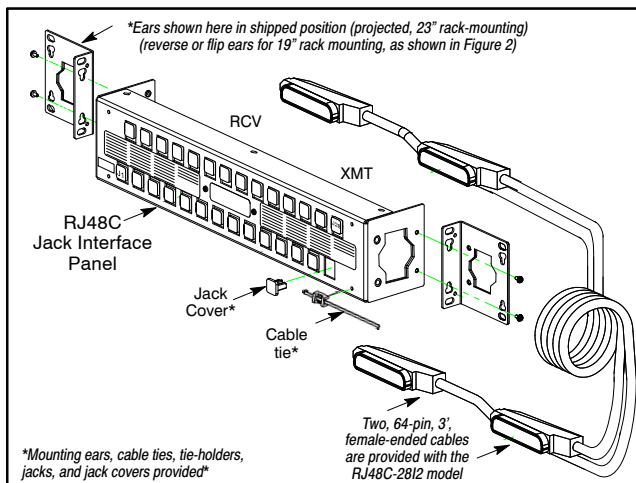

Figure 3. Exploded View of RJ48C Jack Interface Panel
Revision C of this practice updates Paragraphs 1.3, 2.2.1, Figure 3, deletes the previous Figure 4, Table 2, and Table 5, and adds the current Table 2 and Figure 4 through Figure 6. Revision B of this practice updated all text and drawings which describe or show the mounting ears (additional holes added). Revision A replaced 030-101336 for the models shown in Table 3 and updated the company contact information. Practice 030-101336 replaced practice 057-017701. Whenever this practice is updated, the reason will be stated in this paragraph.
There are two mounting types; one is rack mounting and the other is wall mounting. See Table 1 for a step-by-step installation procedure and refer to Figure 3 if needed.
to the wall. The mounting ears may be detached (panel is shipped with ears in the 23" rack mount position, as shown in Figure 3), re-positioned, and re-attached for wall mounting applications.
3.	Determine mounting type and ear position. The panel is shipped with the ears attached for projected mounting in a 23" relay rack (see Figure 3). If flush mounting in a 23" rack is desired, or if either 19" rack or wall mounting is desired, remove, re-adjust, and re-attach the ears in the desired position, as explained below.